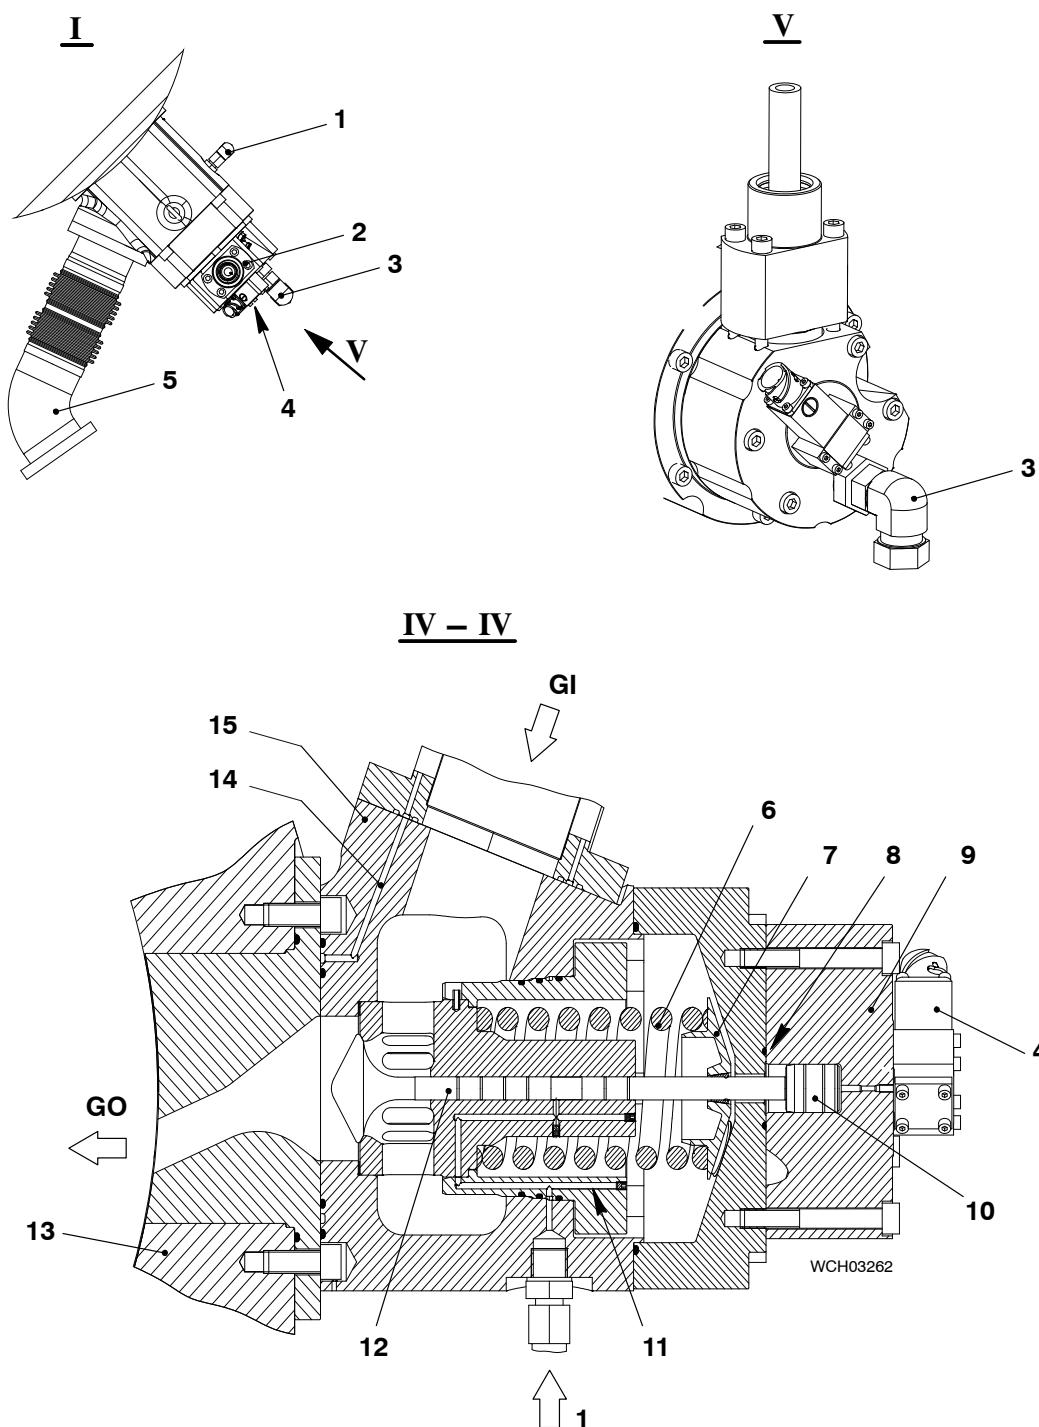

Fig. 2: Gas Admission Valve – Section Views
The ECS operates the solenoid valve (4, Fig. 2). The servo oil moves the piston (10) and the valve spindle (12) against the force of the compression spring (6). The valve spindle (12) moves away from the valve seat and gas flows through the gas nozzle into the combustion chamber.